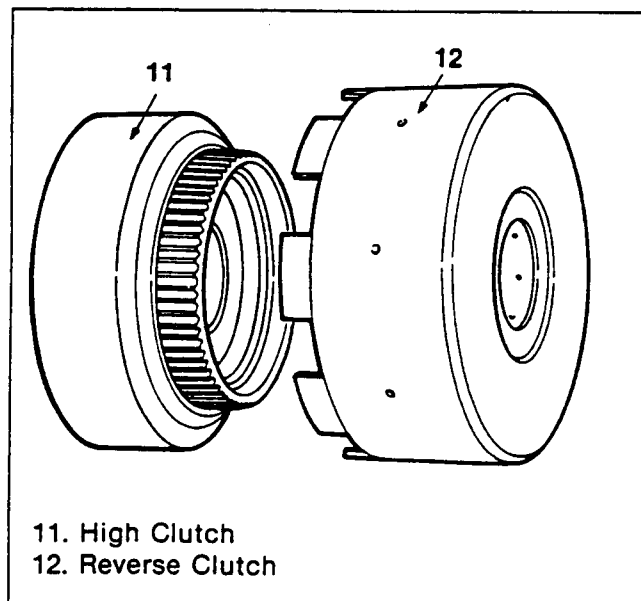

Figure 265. Clutch Pack Reassembly (1)
Clutch Pack (Figures 265, 266, 267 and 268)
1. Put the high clutch and the reverse clutch together (figure 265).